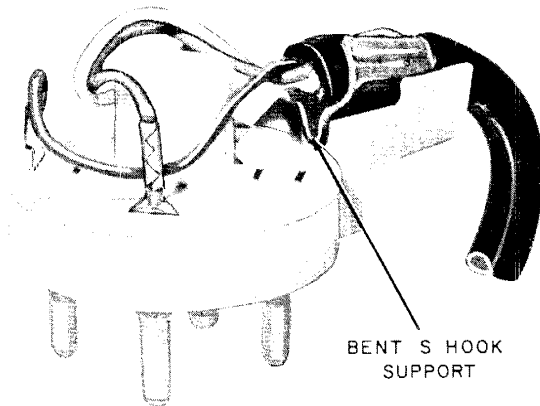

Fig. 11—Early Model D3BU Cord Connected to 505A Plug
- (1) Remove P-18E457 adapter [3.11(b)(1)] and S hook from the cord.
- (2) Make a right angle bend in the S hook support of the stay band in the direction away from the cord conductors (Fig. 11).
- (3) Position the mounting cord in the cord channel so the S hook support is seated in the slot adjacent to the cord tip guide (Fig. 11).
- (4) Fit the cord fastener into the groove in the cord channel and press until it snaps into position.
- (5) Connect the mounting cord spade tips in the socket-type terminals.
- (6) Dress cord conductors so they will not obstruct the center of the cord tip guide.
- (7) Position cap assembly on cord tip guide and block; check that no cord leads are pinched.
- (8) Insert cover screw and tighten.